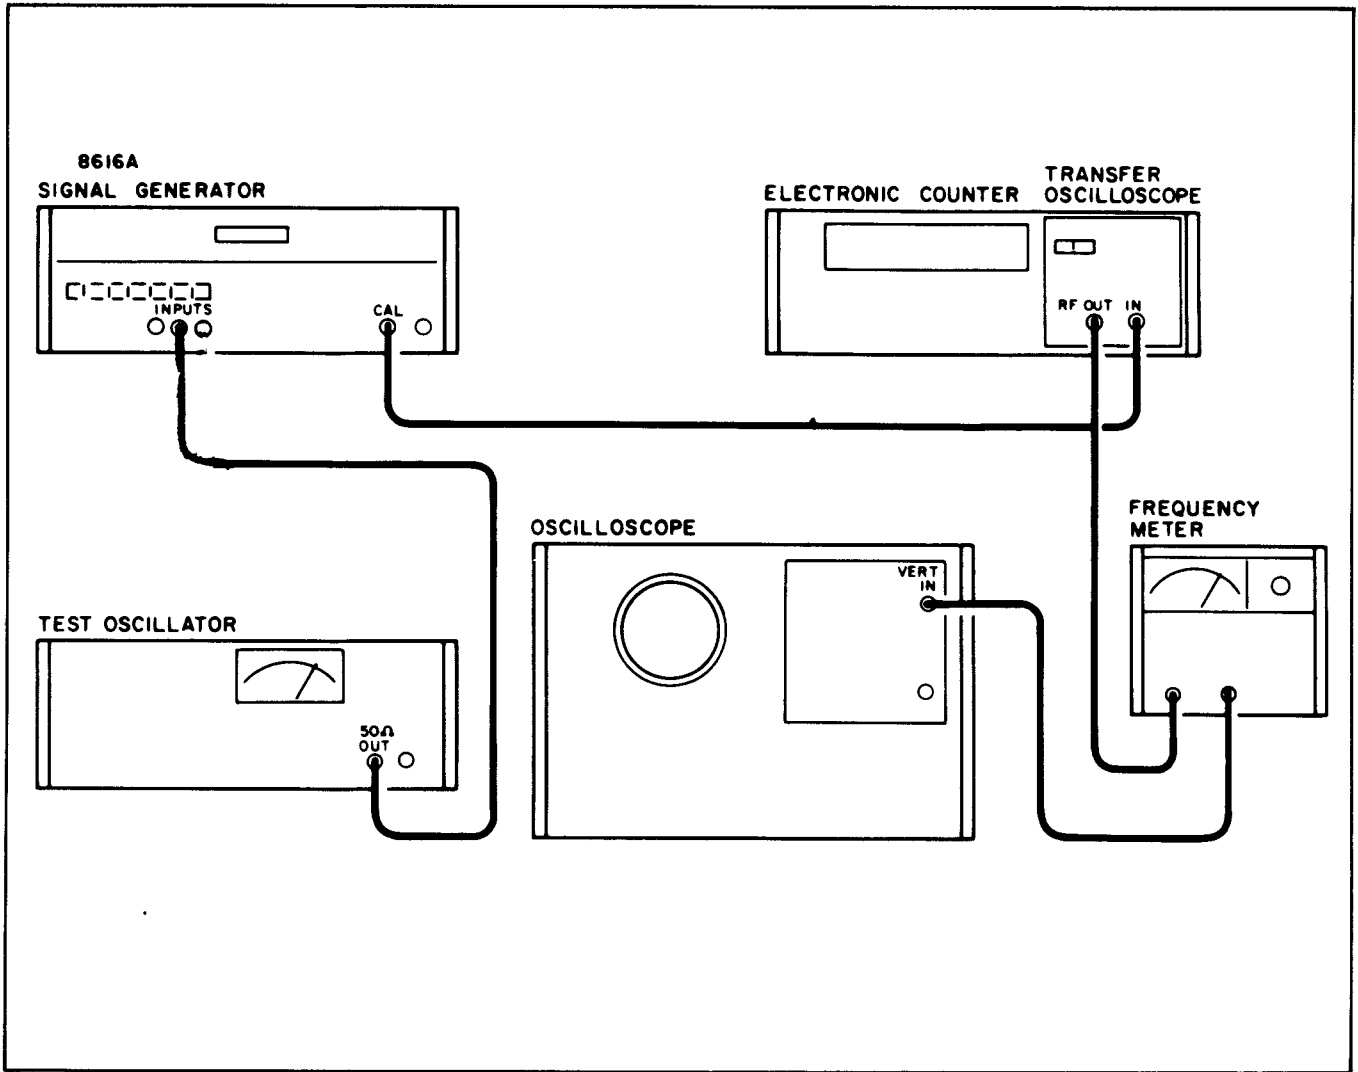

Figure 5-12. Residual and Incidental FM Check
a. Connect instruments as shown in Figure 5-12, without the test oscillator in the setup.
i. Connect instruments as shown in Figure 5-12, with the test oscillator in the setup.